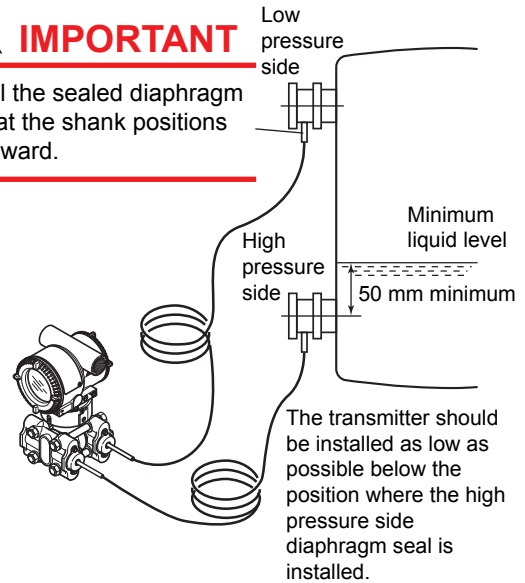

Figure 3.10 Installing the Diaphragm Seals to a Tank
When measuring the liquid level of the tank, the minimum liquid level (zero point) must be set to a level at least 50 mm above the center of the high pressure side diaphragm seal (see Figure 3.10).
- When measuring the liquid level of the tank, the minimum liquid level (zero point) must be set to a level at least 50 mm above the center of the high pressure side diaphragm seal (see Figure 3.10).